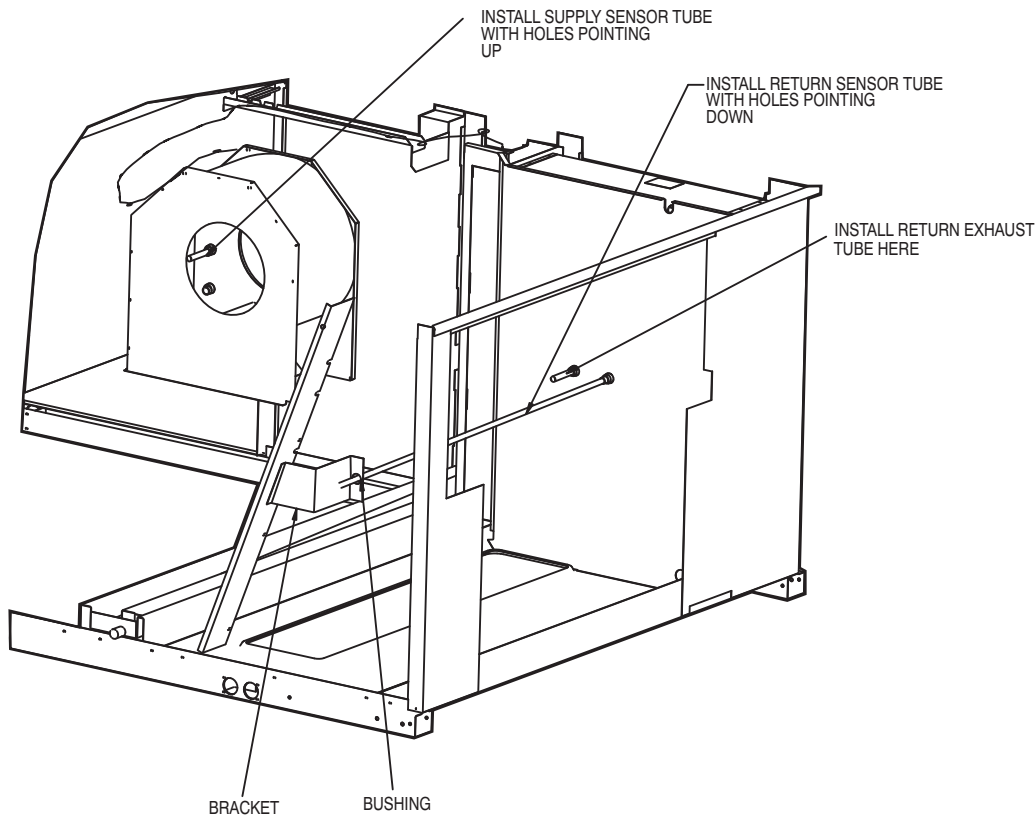

Fig. 4 – Supply and Return Sensor Tube
7. Slide long sampling tube (P/N RN20ZT060) into left-hand hole of smoke detector. It might be necessary to tilt the smoke detector upwards in order to properly align the sampling tube, **making sure that the sampling holes point DOWN.** (See Fig. 4.)
11. Slide sampling tube into bracket. (See Fig. 4.) Pull the sampling tube so that the locking collar snaps into the smoke detector.